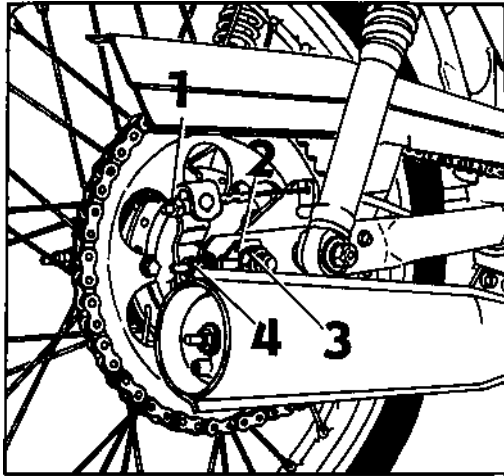
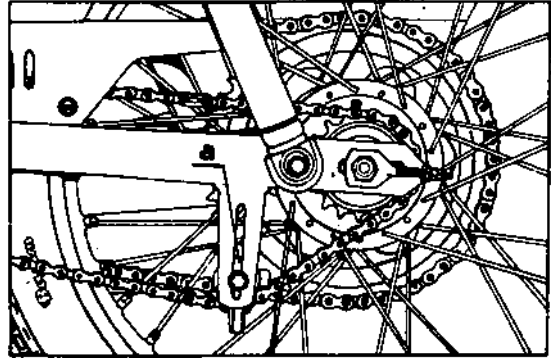

Fig.18 – Adjusting of rear brake and engine drive transmission chain
Fig.19 – Adjusting of pedal drive transmission chain
For adjusting the rear brake use the adjusting nut (1), Fig. 18. If this is no longer adjustable by set screw on the handlebars re-set the brake toggle on the splined shaft. The rear brake can then again be adjusted by means of the adjusting nut (1) Fig.18. After adjusting the brakes check whether they are not too tight. With the moped resting on its stand, spin the wheels and check for free rotation.
To take up the tension of the chain from the engine, first loosen the nut of the rear wheel spindle (Pos. No. 3, Fig.18). Now adjust the chain by tightening the nuts (4) of the chain tensioner (2) on either side of the frame. The sag of the chain when compressed midway with the fingers must be about 15 mm. After tensioning, check the alignment of the track of both wheels with the aid of a perfectly straight lath, and then firmly retighten the spindle nut. The tension of the chain from the pedals can be adjusted by means of the tension pulley (a) on the left-hand side of the moped (Fig.19).